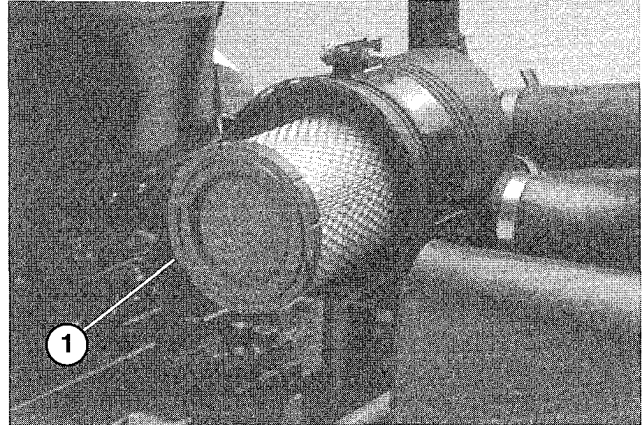

Figure 37
2. Gently slide primary filter (Fig. 37) out of air cleaner body to reduce the amount of dust dislodged. Avoid knocking filter against air cleaner body. **Do not remove safety filter.**